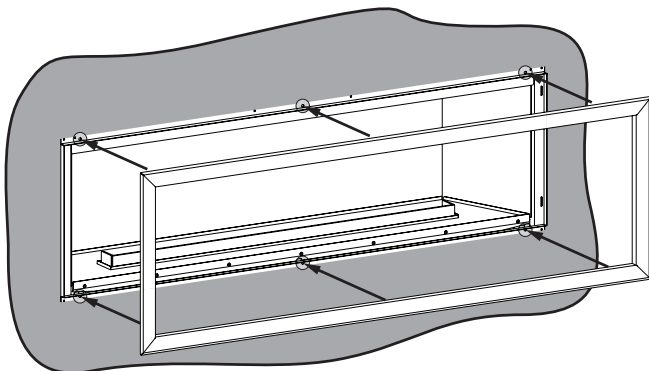

Figure 10
7. Insert threaded rods into the holes on top and bottom of the fireplace opening. Position until the trim touches the finishing material around the fireplace opening. See Figure 10.